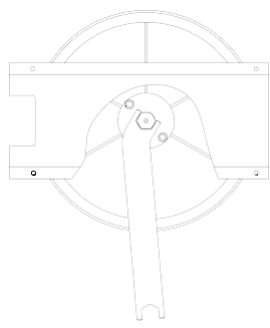

Figure 1
2. To tighten the door seal, use this tool to adjust the door adjustment nut counter clockwise (Figure 1).